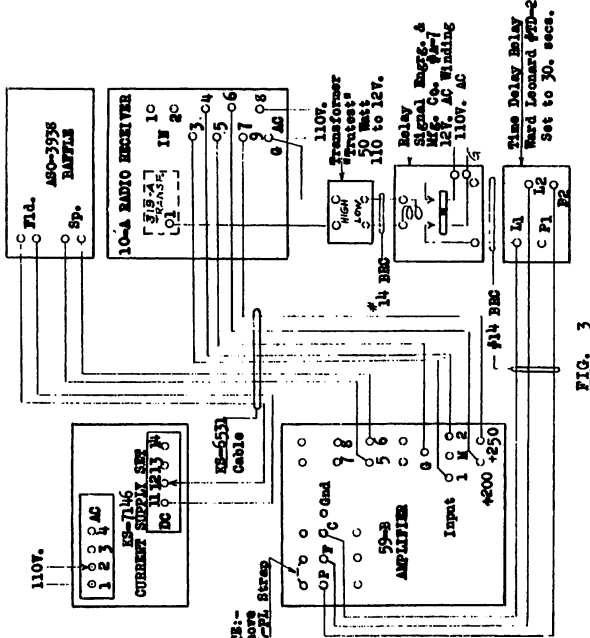

FIG. 3
0.1 To clarify Figure 3.
3.5 If it is desired not to have the power switch D₁ in the circuit, remove the PL to FIL strip from the AC line terminals as these will not be used, and connect the power leads from the remote control switches to the "AC POWER OUT" terminals. An arrangement of this kind is shown in Fig. 3 where the power to the 59 type Amplifier is delivered from a relay (A-7) which is actuated by low voltage AC controlled by the power supply switch on the 10-A Radio Receiver. That portion of the power supply intended for the "P" terminal of the amplifier is routed through the time delay relay (TDR) which is set to operate 30 seconds later than the supply relay.